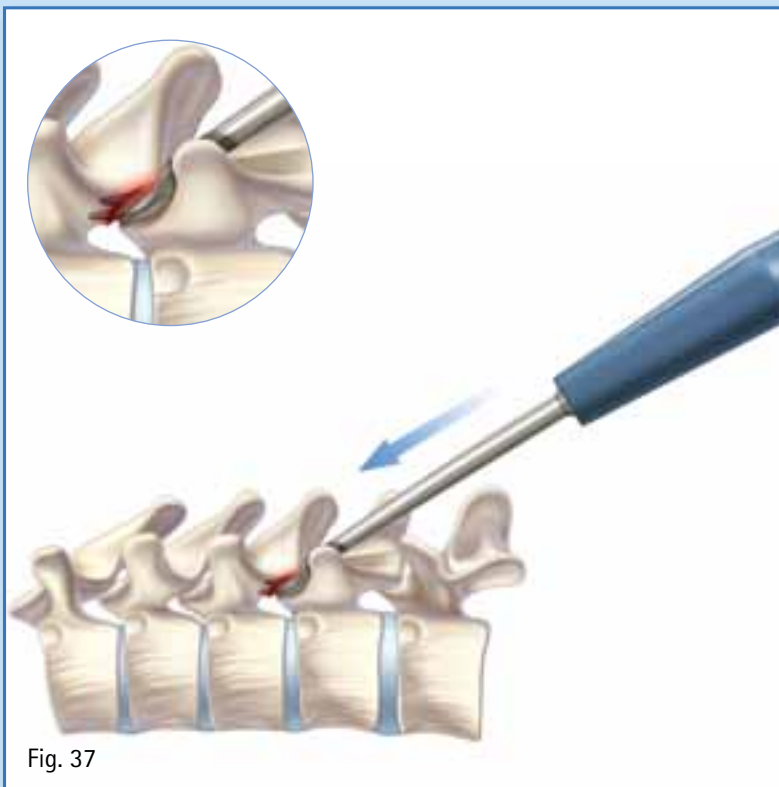

Fig. 37
- Prepare the bed for pedicle hook insertion with the pedicle preparator (FW251R). (Fig. 37)